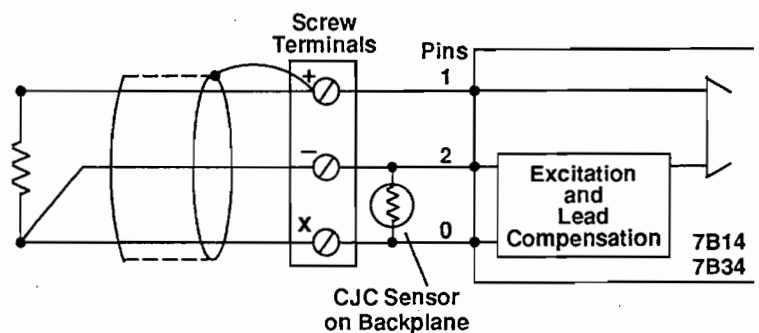

Figure 2-14. RTD Input
- **RTD Input** - An example of wiring an RTD input signal to a 7B14 or 7B34 module is shown in Figure 2-14.